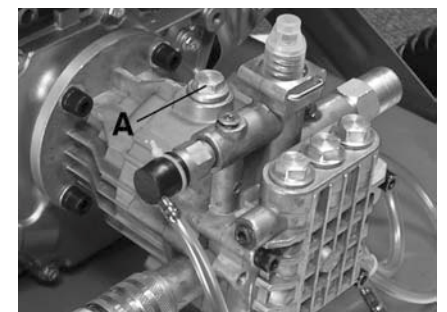

Figure 15
Pump oil should be annually replaced with approx. 4.7 fl. oz. (138ml) of SAE 300 non detergent oil. To replace pump oil, undo oil bolt (A) Fig.15, and drain pump oil. Once oil has completely drained, fill with recommended oil. Retighten oil bolt.